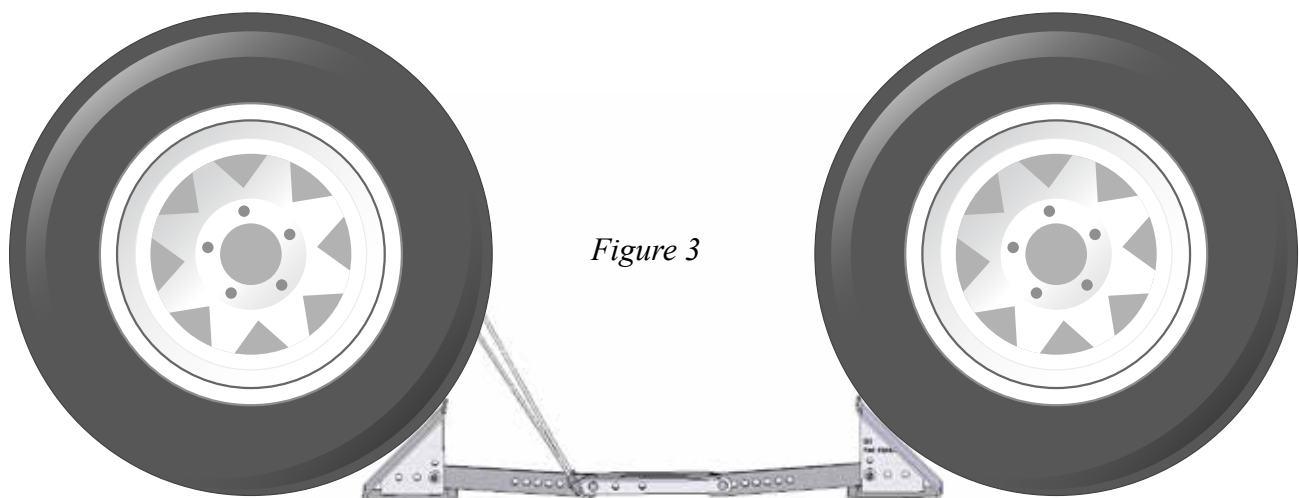

Figure 3
- 6) Place the chock between the tires again. It should fit snugly between the tires, with the center arms not dropping all the way to the ground. Step down on the center arms to lock the chock into place. Pull up on the cable handle to remove the chock. *See Figure 3.*